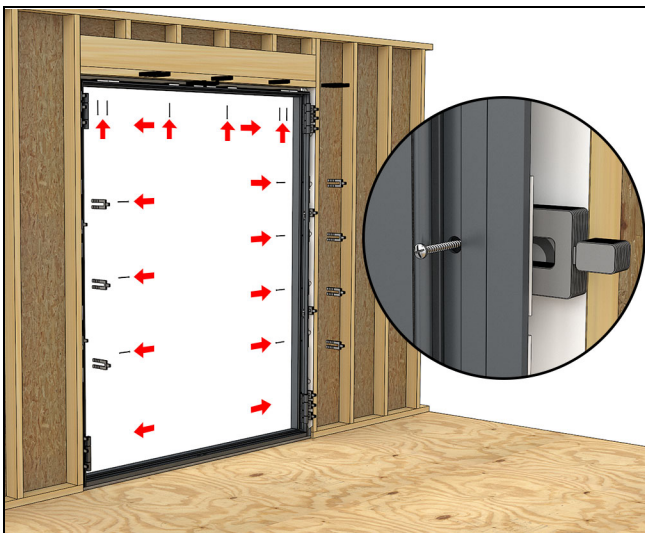

Figure 58
21. Fasten remaining installation screws holes in the jamb and remaining hinge installation screws. See Figure 58.